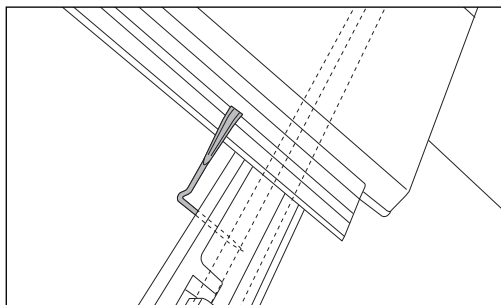

Fig 54 – Domino tile clip
- A – Tiles requiring once clipping (side) should be fixed using a Domino one piece Tile clip, located over the side lock of the tile (Fig 54).